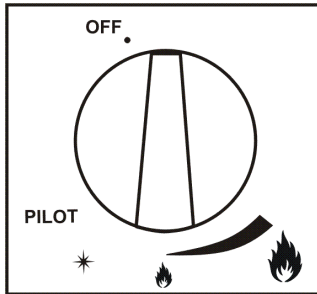

Figure 16 – Barrel Control Valve
- 1) Ensure that the control knob is pointing upwards (as shown in **Figure 16**) in the OFF Position.